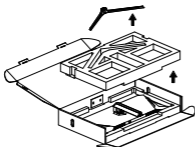

Fig.2
1. Remove the block on the support (①).
2. Insert the hooks on the support VESA cover into the two opening buckle positions (②③) of the rear shell at an Angle.
3. Slide the sliding switch on the VESA cover to the far right and fix it with your hand (④). At the same time, press the support down (⑤) and release the sliding switch so that the two clasps under the sliding switch are stuck in the backplane support under the rear shell; the base in turn, as shown in Figure 2.
4. insert the base into the support (⑥), clockwise tighten the hand screw (⑦).